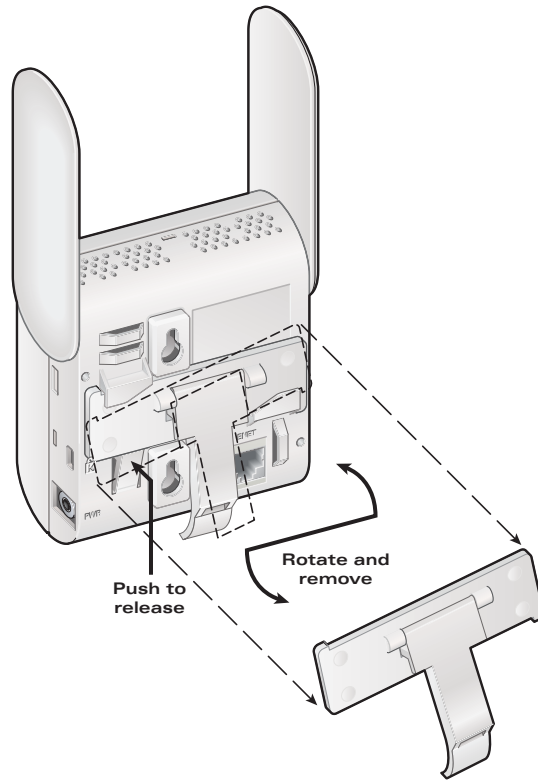

FIGURE 1 Detaching the Desktop Stand
1. On the rear of the AP 65, press down the tab on the lower left corner that secures the desk stand to the device (see Figure 1).
2. Twist the stand counter-clockwise to detach it from the AP as shown in Figure 1.